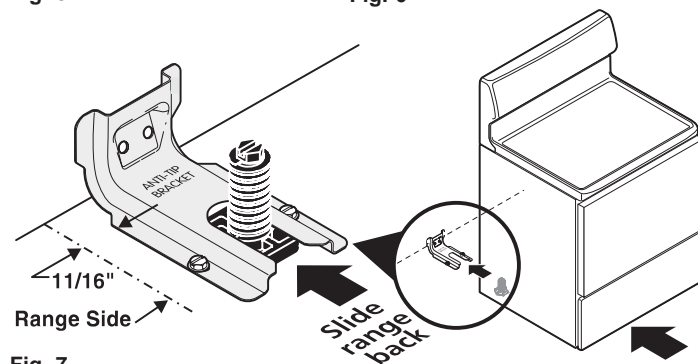

Fig. 7
1c. Level and Position Range - Level range by adjusting the (4) leveling legs with a wrench. NOTE: A minimum clearance of 1/8" is required between the bottom of the range and the leveling leg to allow room for the bracket. Use a spirit level to check your adjustments. Slide range back into position (See Fig. 7). Visually check that rear leveling leg is inserted into and fully secured by the Anti-Tip Bracket by removing lower panel or storage drawer. For models with a Warmer Drawer or broiler compartment, grasp the top rear edge of the range and carefully attempt to tilt it forward.
Carefully slide range into final position while inserting rear leveling leg into and FULLY ENGAGING THE ANTI-TIP BRACKET (See Fig. 7). Make sure the power cord folds into the remaining open floor area behind the range Warmer or storage drawer. Be sure to check the level of the range.